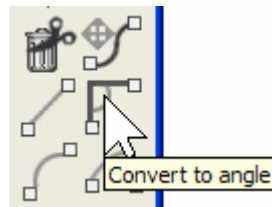

Figure 7-29
- ... Next, we'll select the tool whose tool tip reads "Convert to angle" (Figure 7-29).